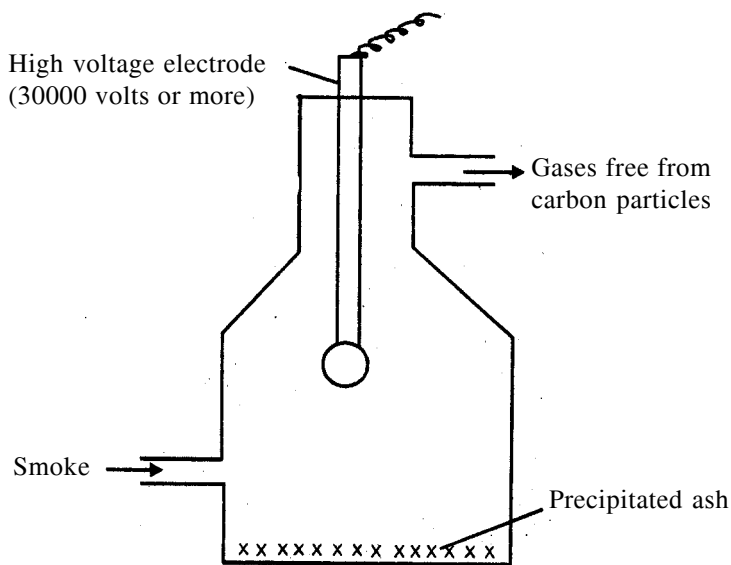

Fig. 10.8 : Cottrell smoke precipitator
- iii) **Smoke Precipitation :** Smoke particles are actually electrically charged colloidal particles of carbon in air. Precipitation of this carbon is done in a **Cottrell's Precipitator**. Smoke from chimneys is allowed to pass through a chamber having a number of metallic plates connected to a source of high potential as shown in Fig. 10.8. Charged particles of smoke get attracted to the oppositely charged electrode and get precipitated and hot purified air passes out.